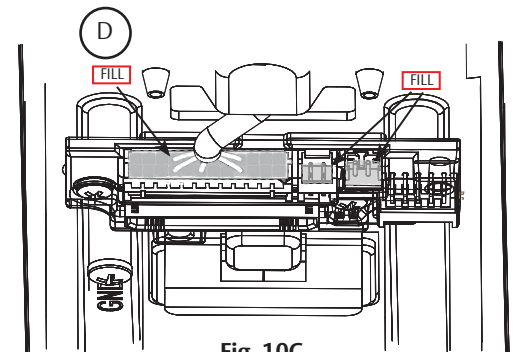

Fig. 10C
- Ensure all openings on back of secured connectors are covered completely with grease (Fig. 10C).